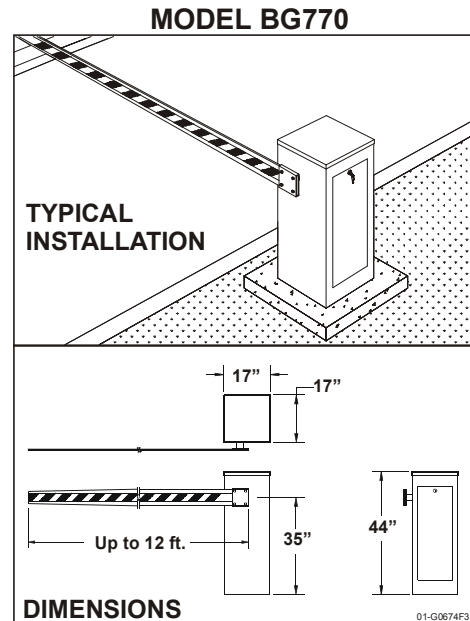
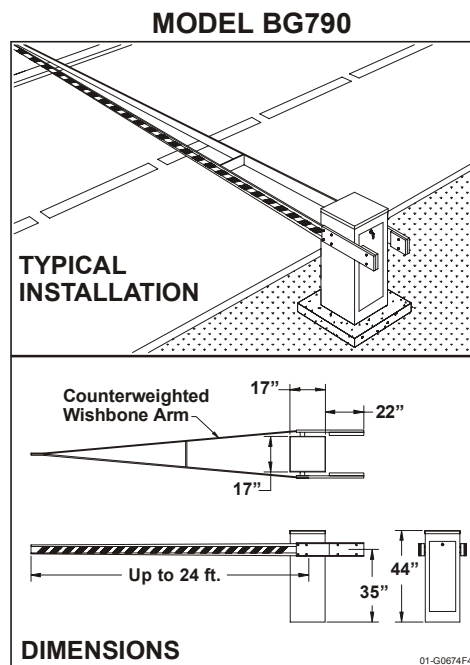

Figure 1
Figure 2
- 1 Be sure that selected gate location has required clearance for arm movement (and counterweights on model BG790). Refer to the dimensional drawings, Figure 1 and Figure 2 on page 4.